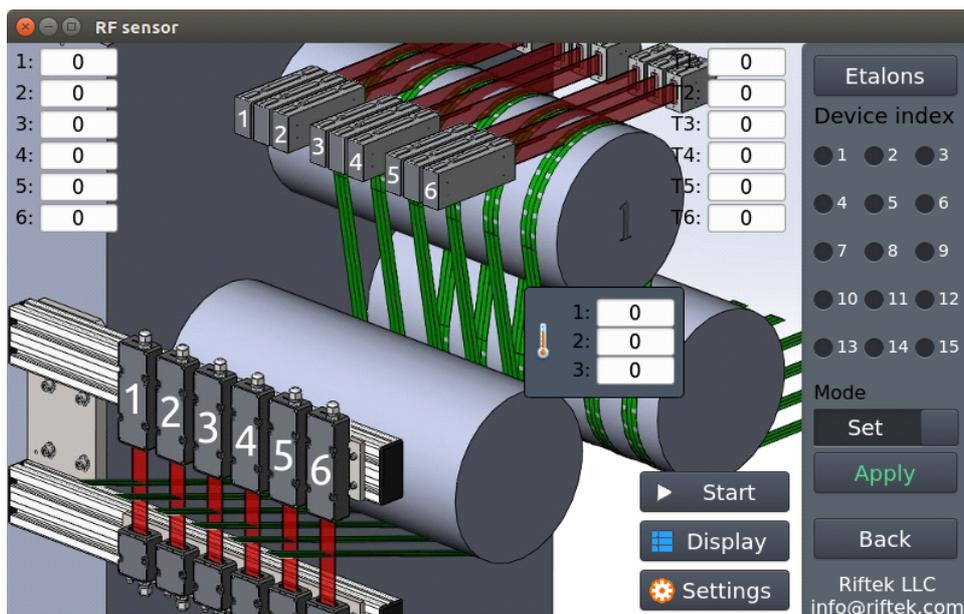

Figure 11
- Open the calibration menu: **Settings > Set etalon/Sw. State** (Fig. 11).